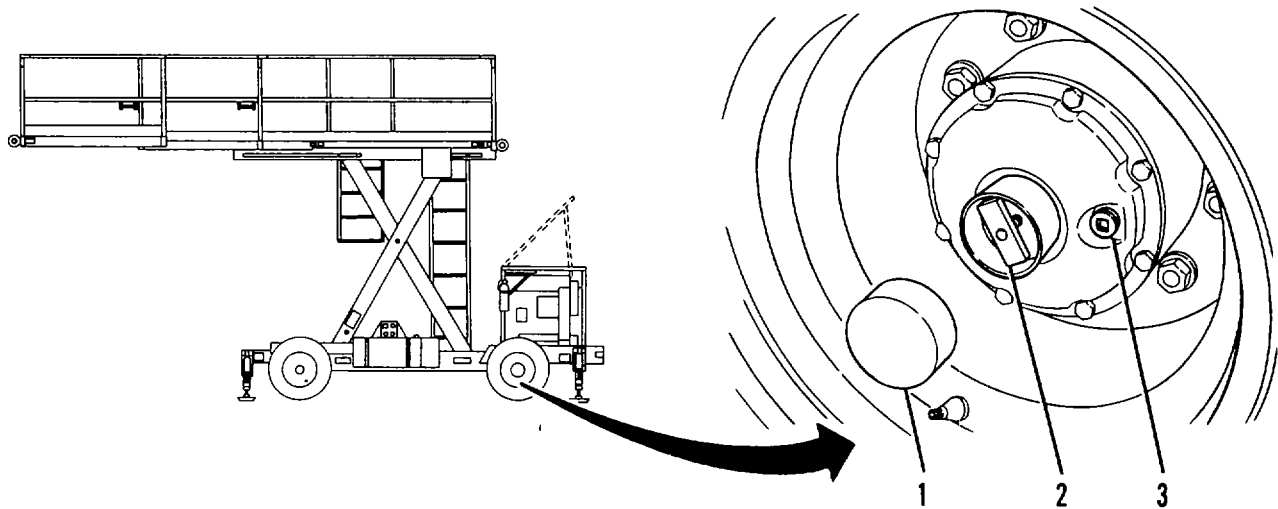

Figure 3-26. Drive Hub Service.
- b. Remove dust cover (1, Figure 3-26).